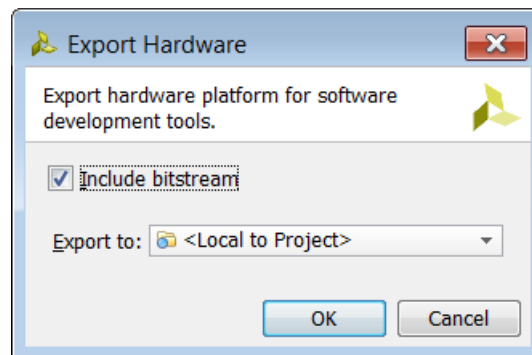

Figure 10-21: Export Hardware Dialog Box
2. In the Export Hardware dialog box (Figure 10-21), ensure that the **Include Bitstream** is enabled and click **OK**.